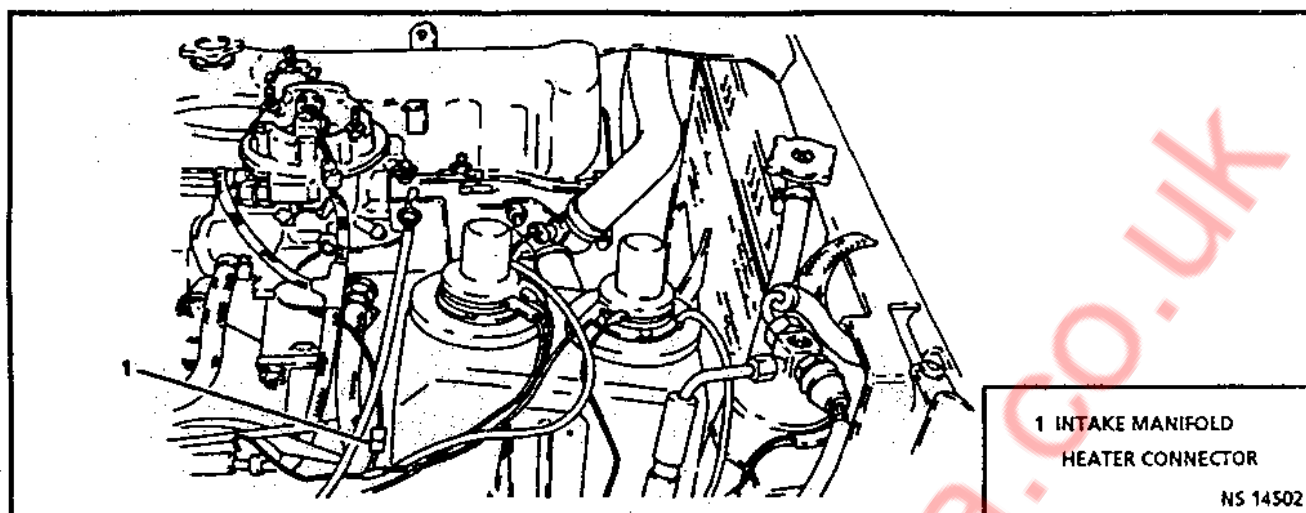
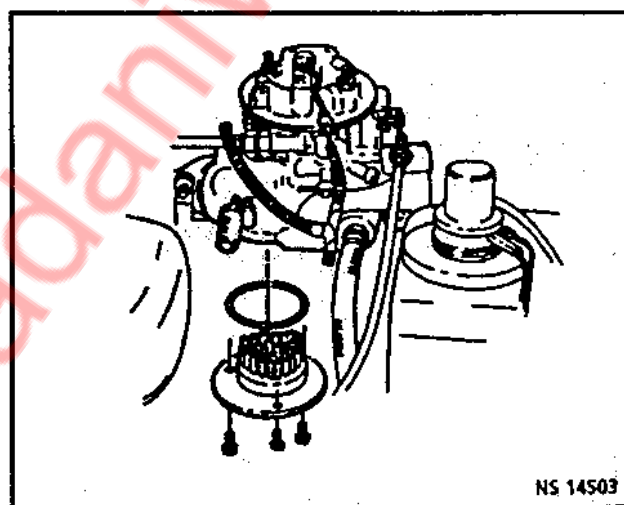

Figure 3.9-1 Intake Manifold Heater Connector
Figure 3.9-2 Intake Manifold Heater Removal
Figures 3.9-1 and 3.9-2
2. Intake manifold heater connector (Figure 3.9-1).
3. (3) manifold heater to intake manifold connecting bolts.
4. Intake manifold heater and gasket from underside of intake manifold (Figure 3.9-2).